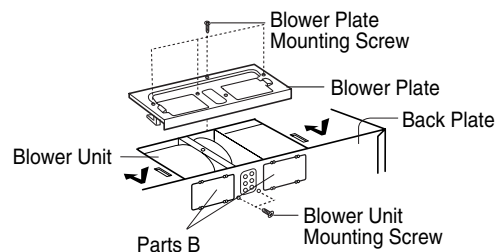

Figure 25
6. Reattach blower plate to microwave oven. Attach with the one blower unit mounting screw and then the one or several blower plate mounting screw(s). See Figure 25.